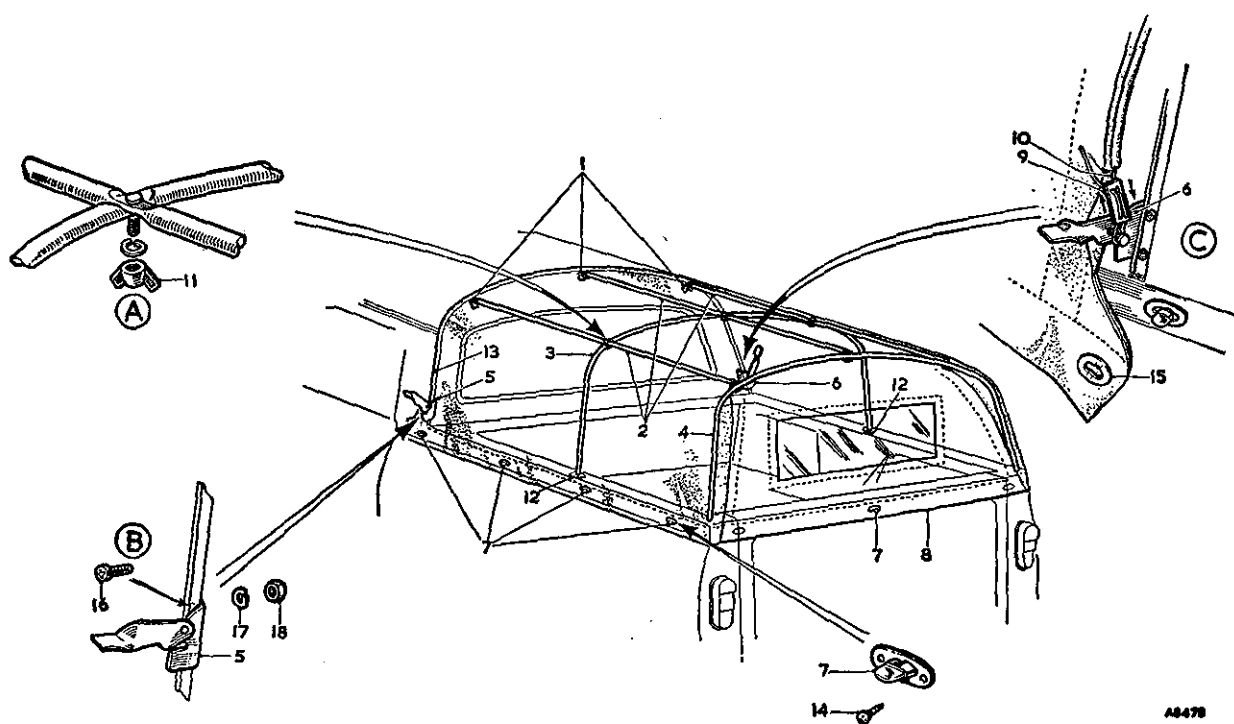

Fig. R.3
- (1) Fit the rear hoop ends into the sockets at either side of the rear end of the body. Ensure that the three brackets attached to the top of the hoop face forwards.
- (2) Fit the centre hoop ends into the sockets at the centre position.
- (3) Engage the studs of one of the struts in the hole in the centre bracket at the top of the rear hoop, the centre hole pierced in the top of the centre hoop, and the hole in the centre bracket attached to the rear of the cab at the top (see Fig. R.3). Fit a spring washer and wing nut to each stud and tighten fully (inset (A) of Fig. R.3).
- (4) Repeat this operation with the other two struts, using the fixing holes in the brackets and centre hoop either side of the central fixing points.
- (5) Place the R.H. lever bracket assembly on the rear face of the channel fixed around the rear of the cab with the drilled face of the bracket against the channel, its lower edge approximately in line with the top edge of the seam (body cross-member to cab). The lever attached to the bracket must face outwards and the lever pin must face forwards.
drilled face of the bracket onto the body and drill two holes $\frac{1}{4}$ in. (5-16 mm.) diameter. Fix the bracket to the channel with two of the No. 10 pan-head screws, nuts, and spring washers, the heads of the screws facing outwards (see inset (B) of Fig. R.3). Repeat this operation with the L.H. bracket on the L.H. side of the channel.
- (6) Lay the tilt cover, smooth face upwards, over the tilt frame with the fixing cable at the front.
from the bottom face of the plate, and returns down through the corresponding hole at the top. By adjusting the position of the cable in the plate the length of the cable can be varied as necessary (see inset [c] of Fig. R.3).